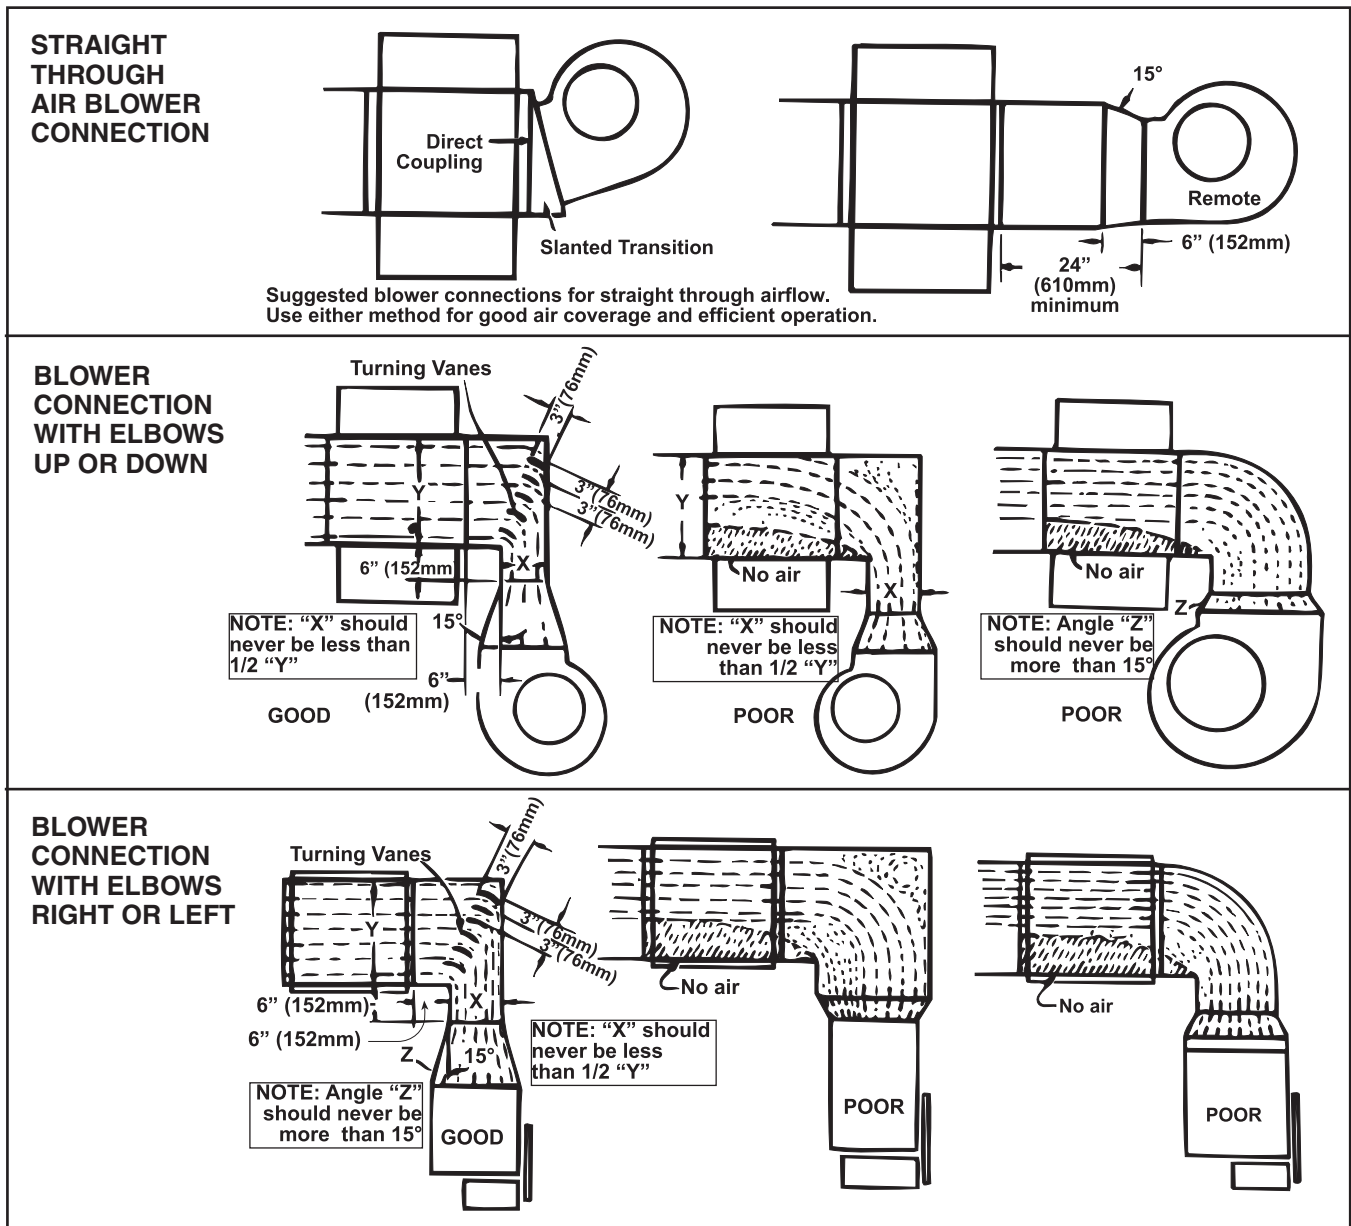

Figure 12. Duct Furnace Blower Connections
- Proper arrangements of blower and duct furnace with respect to angle of approach of the duct connection and the arrangement of the discharge opening of the blower are shown in Figure 12.